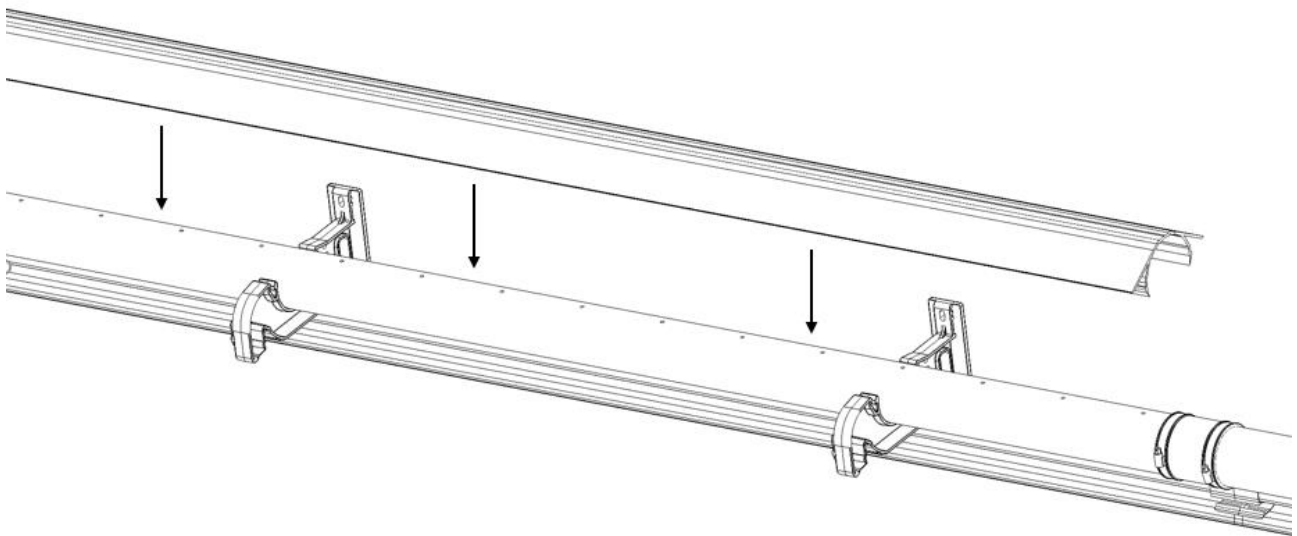

Figure 27
Insert the Deflector [ref. 14] and clip it in to the Top Brackets. See Figure 27. Mind the position of the screws of metal clamp. If the screws are at the bottom than the Cover will be correctly inserted in the location (without interference).